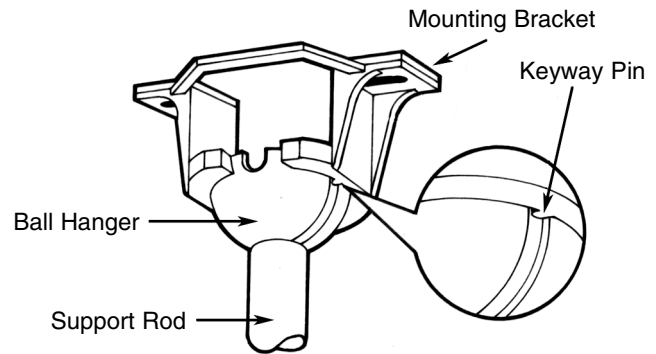

Fig. 6
- ❖ Notice the half ball on the end of the support rod is grooved down one side (see figure 6). This Keyway fits over the small keyway pin on the inside of the mounting bracket and keeps the ceiling fan from spinning on the mounting bracket.